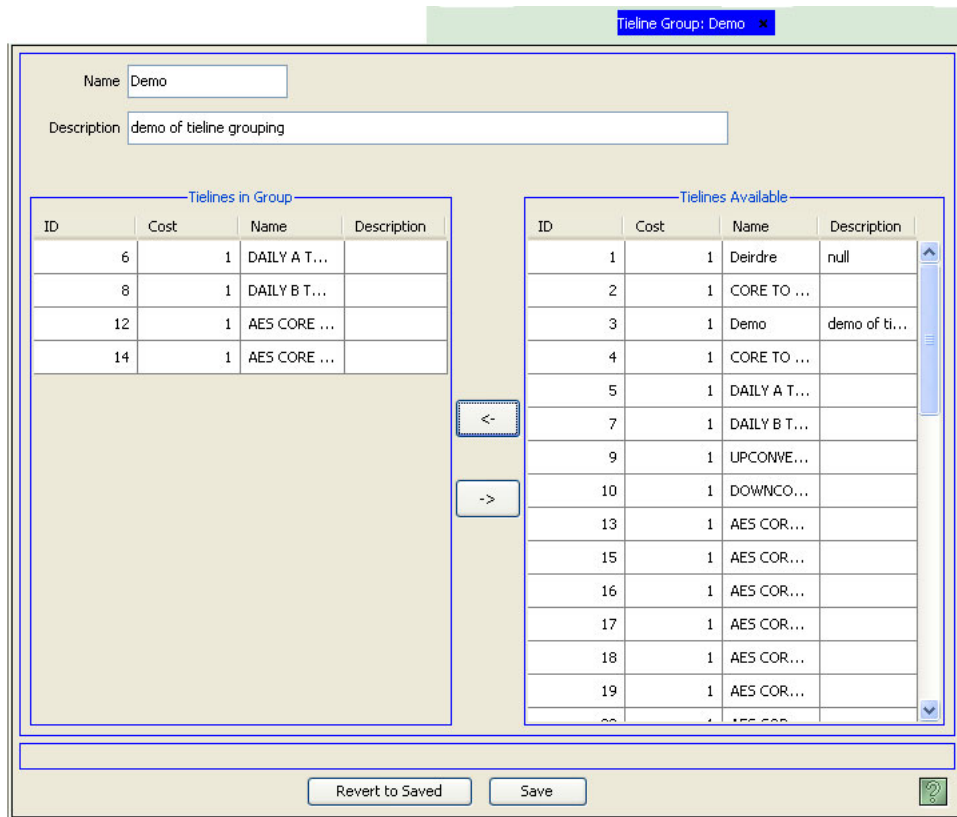

Figure 16-22. Tieline Group Details Page
- 5 Select a tieline from 'Tielines Available' list and click the left facing arrow. The tieline appears in the 'Tielines in Group' section, as shown in Figure 16-22. Continue until all tielines you